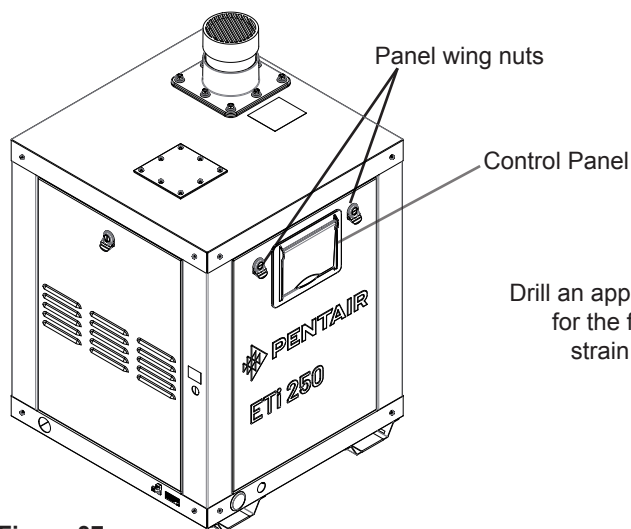

Figure 37.
1. Release the two wing nuts that secure side panel. Remove the panel from the heater. **See Figure 37.**
- Secure the panel with the two (2) retaining screws. Close the front door and secure with the latch. See Figure 37 on page 45.